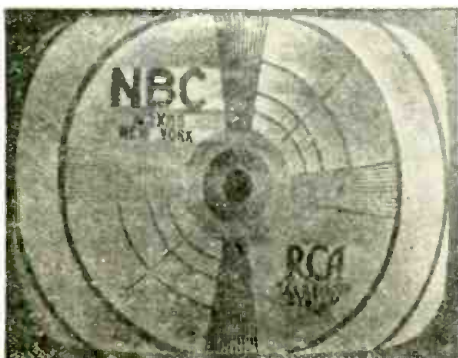

Fig. 3—A pattern due to oscillator trouble.
1. Large objects and letters appear smeared in image (see Fig 3), but sound comes through clear and undistorted. If the sound is unaffected, the trouble must be in the video system. The path exclusively devoted to the video signal contains the video i.f. amplifiers, the video detector, and the video amplifiers. Smearing in an image indicates poor low-frequency response or tube distortion. Therefore, the trouble is probably in the video amplifiers where special-frequency compensating networks are employed.